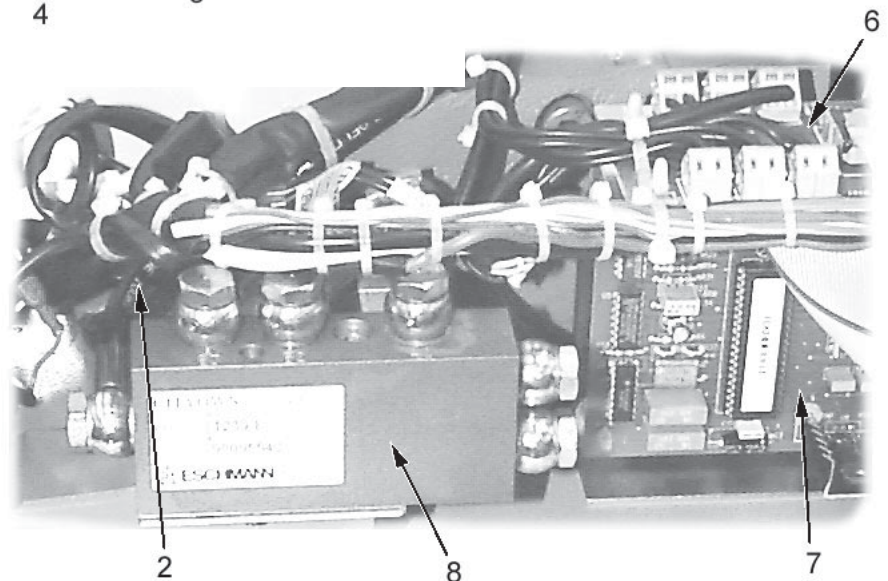

Fig. 10 Hydraulic system - main components
- 3 The hydraulic system schematic diagram is shown in Fig. 9 with the main components illustrated in Fig. 10. Individual cylinders are also shown in the 'Removal and Installation' section later in the manual.